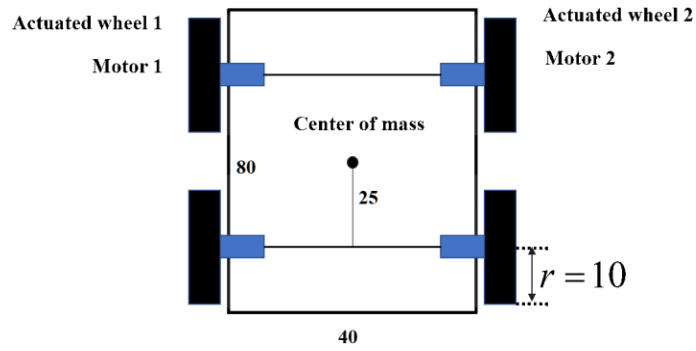
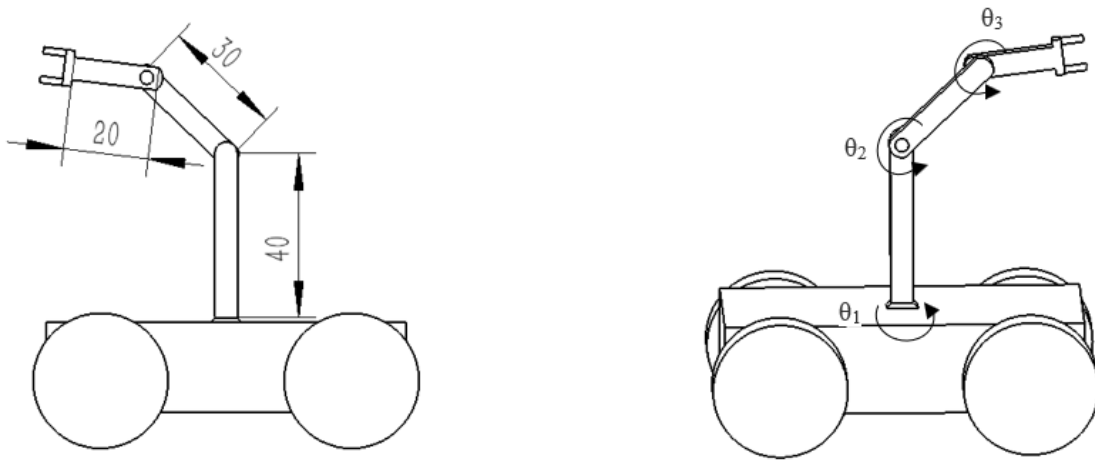

Figure 2: The geometry of a four-wheel robot (cm)
Figure 3: Structure and geometry of robot arm (cm)
For you to achieve the sense of achievement and become competent in your job hunting in robotics, automation and computational intelligence areas, you are to apply what you have learnt in the class such as kinematics, dynamics, control, and simulation for a mobile robotic manipulator as shown in Figures 2 and 3.
In this project, we consider modelling and control of a four-wheel autonomous robot based on the Kiwibot. The geometry of the four-wheel robot is presented in Figure 2. This four-wheel model is to execute moving and turning. Assume that two front wheels are the driving wheels and the others are the driven wheel. On top of it, we add a 2-link robot arm on the center top of the robot. Both these two joints are revolute joint. When the robot reaches the target location, the robot arm will execute object grasping mission. Under this circumstance, the robot could rotate in place in order to reach the object and we can regard the rotating robot as a revolute joint. Link 1 is fixed to the robot. A simplified model is shown in Figure 3.
- i. Determine the D-H table and the Jacobian matrix of the robot as shown in Figure 3. Taking the autonomous car as a revolute joint, we actually have a 3-joint robot arm.
- ii. Compute the forward and inverse kinematics of the robot arm as show in Figure 3 Matlab or Python.